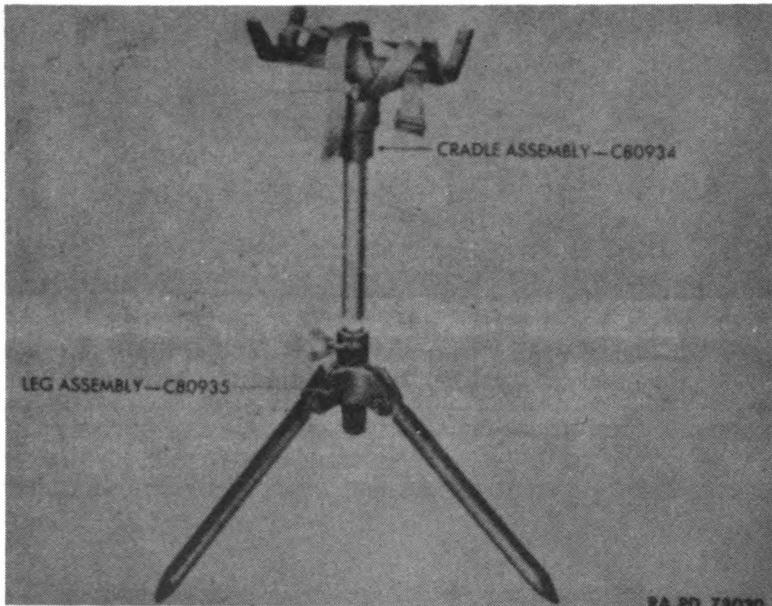

Figure 20—Tripod M14—Separated
- (1) Loosen the clamping thumbscrew in the leg assembly and remove the cradle assembly from the leg assembly (fig. 20).